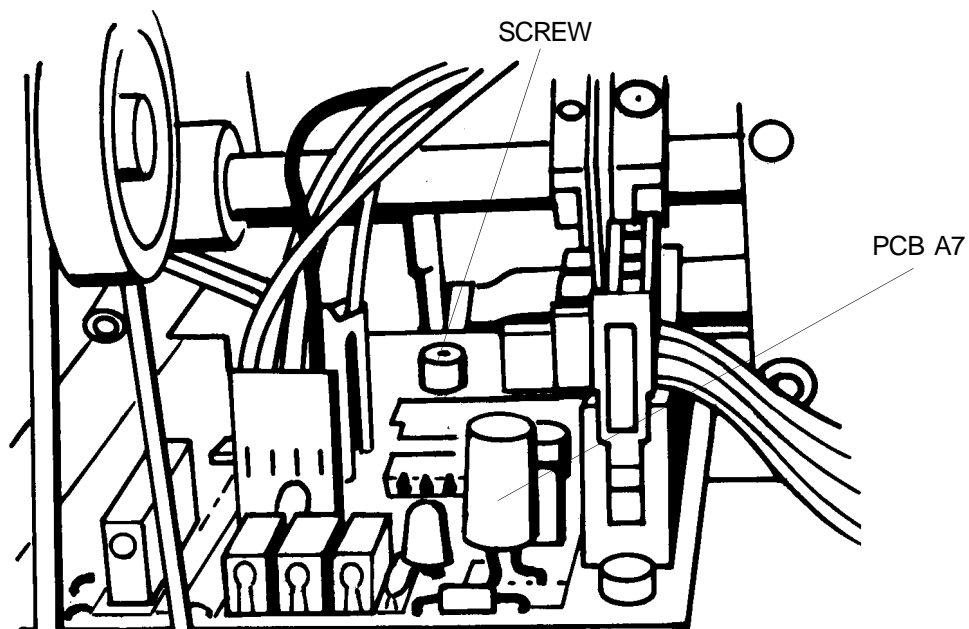

figure 5
9. Remove and discard SCREW indicated in figure 5. Keep the WASHER which is installed on SCREW.